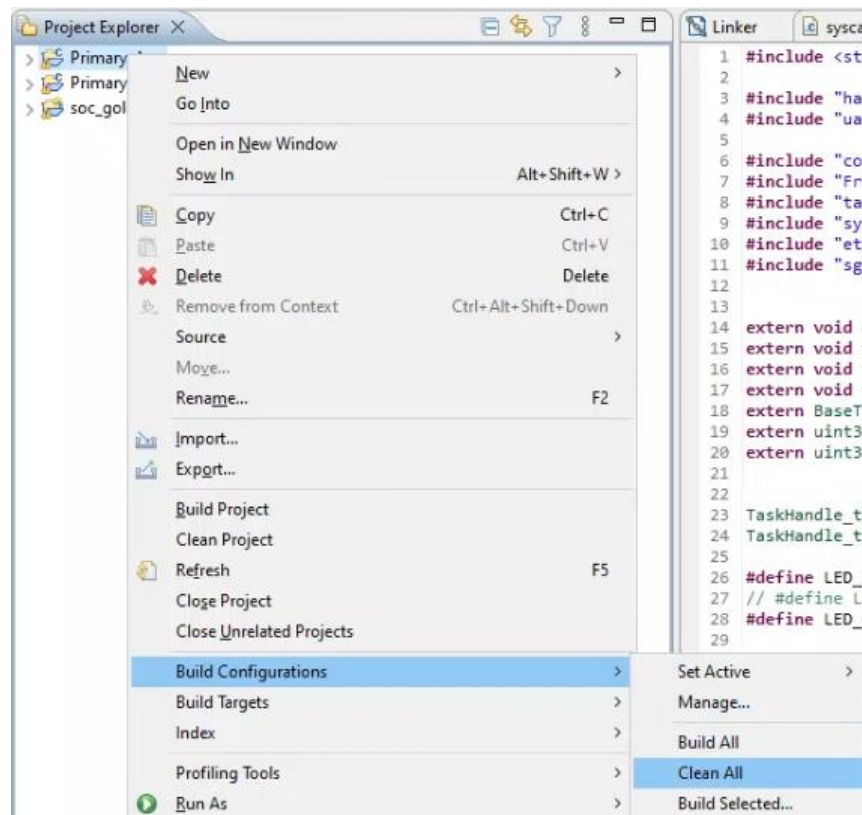

Figure A.10. Clean All Configurations
1. Right-click on the firmware project folder *Primary_App* and select the option as shown in Figure A.10 to clean the project before building.